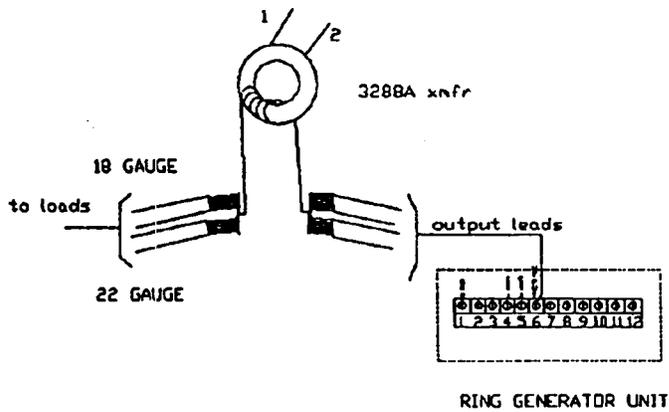

Figure 3-5: Sequential Overview of 3288A Current Transformer Installation
6. Using wire strippers, remove a section of insulation from the output lead(s). **Take care not to cut the wire.** See Figure 3-5.
7. Use one end of the 18 gauge wire to wrap around the bare section(s) of the output lead(s). See Figure 3-5.
8. Use the other end of the 18 gauge wire to wrap around the output terminal A1. See Figure 3-5.
9. Solder the connections made in Steps (7) and (8). See Figure 3-5.
10. At this time the current transformer is still in parallel. Cut the output lead(s) between the current transformer and the output terminal A1. See Figure 3-5.